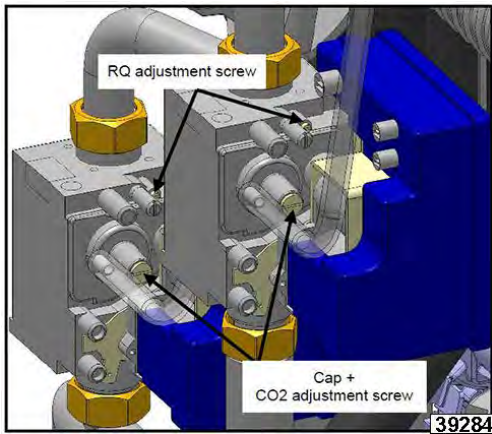
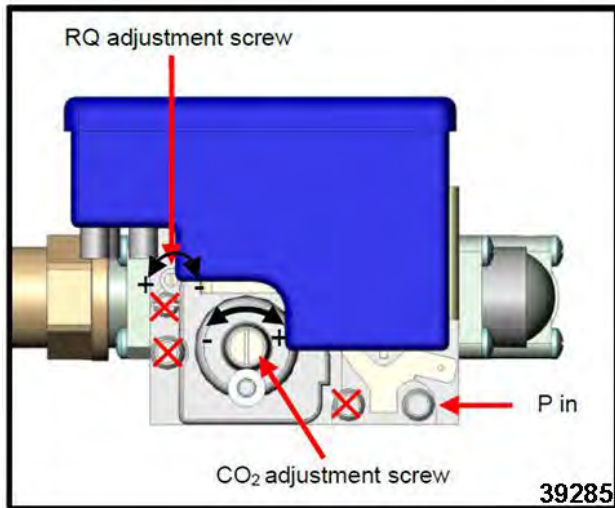

Fig. 133
Fig. 134
- A. Remove protective cap from adjustment screw (2, Fig. 133 & Fig. 134).
- Turn clockwise to increase Low Speed (4mm tool) CO2 adjustment level (2, Fig. 133 & Fig. 134).
- Turn counterclockwise to decrease Low Speed (4mm tool) adjustment level (2, Fig. 133 & Fig. 134).
- A. Adjust High Speed (2.5mm tool or Torx T10), adjustment screw (RQ) (1, Fig. 133 & Fig. 134) on gas valve to set high speed CO₂.
- 1) Counterclockwise to increase High Speed (2.5mm tool) CO₂ adjustment (1, Fig. 133 & Fig. 134).
- 2) Clockwise to decrease High Speed (25mm tool) adjustment (1, Fig. 133 & Fig. 134).